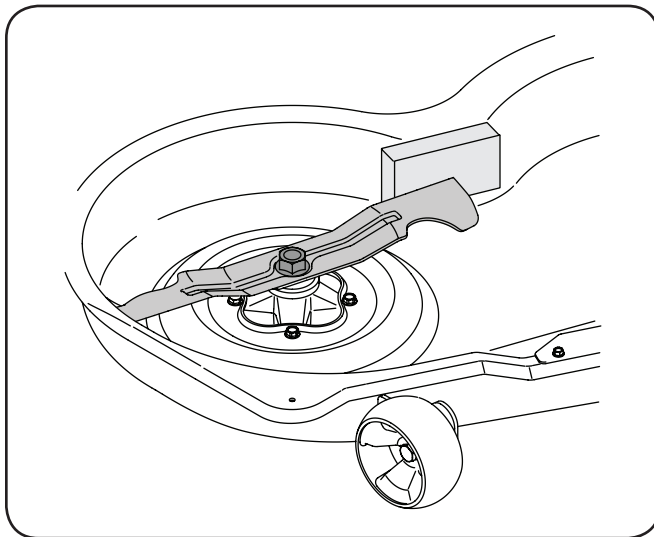

Figure 4-3
2. Place a block of wood between the center deck housing baffle and the cutting blade to act as a stabilizer. See Fig. 4-3.
3. Use a 15/16" wrench to remove the hex flange nut that secures the blades to the blade spindle assemblies. See Fig. 4-3.